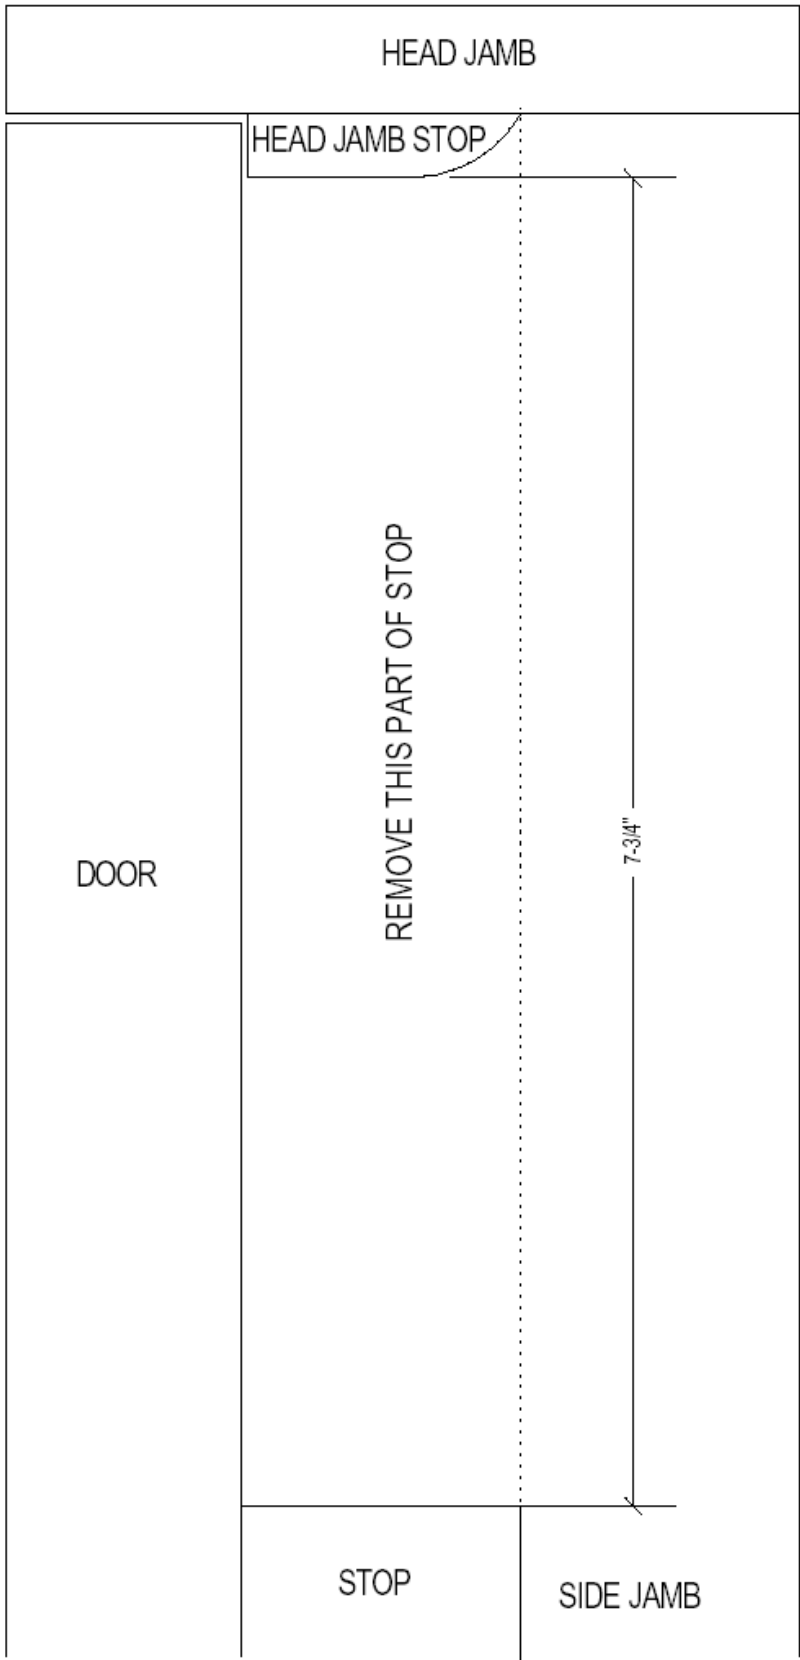

FIG 2A
3. If there is a stop on the side jamb, it either must be removed or spacers will have to be installed. See Fig 2A & 2B.